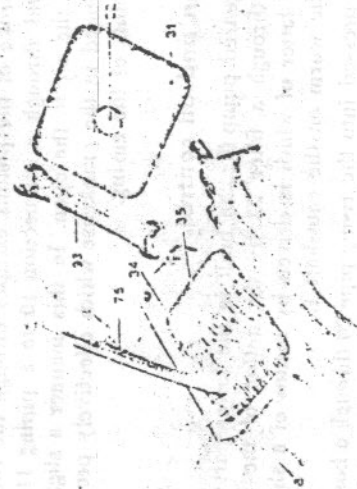

Fig. 11 Adjustment of the valve clearance of the touring machine
Also the valve clearance between the valve stem 36, and the tappet screw 35 or the thrust screw 5 (figs. 11, 12 and 20) which should amount to about 0.004" (0.1 mm) with the cold engine, must be checked from time to time. For this purpose it is best to use a narrow strip of note paper which corresponds approximately to the clearance. The adjustment of the valve clearance of both machines is described below; as said before, it must not be done except with the cold engine.
Touring machine: First the cover 31 to the valve chamber is taken off by unscrewing the head screw 32 connected with same (figs. 11 and 20). Before adjusting convince yourself that the tappet 33 seats on the circular
part of the cam and that it does not by any chance touch the ascending or descending cam curve, which is easily determined by turning the crankshaft slightly forwards or backwards by means of the kickstarter. In doing so the tappet 35 must neither rise nor sink. The tappet is held firmly in position by means of the key 75 supplied with the tools and the lock nut 34 located on the tappet is unscrewed with the second key 93. Now screw 35 on the tappet can be adjusted in such a way that the paper strip A can be introduced between valve stem and tappet screw 35 without difficulty. If the adjustment is correct, the lock nut 34 is tightened again, whilst the tappet screw 35 is held fast with the key 93. After this the valve chamber must be closed again by the cover 31 (fig. 11).